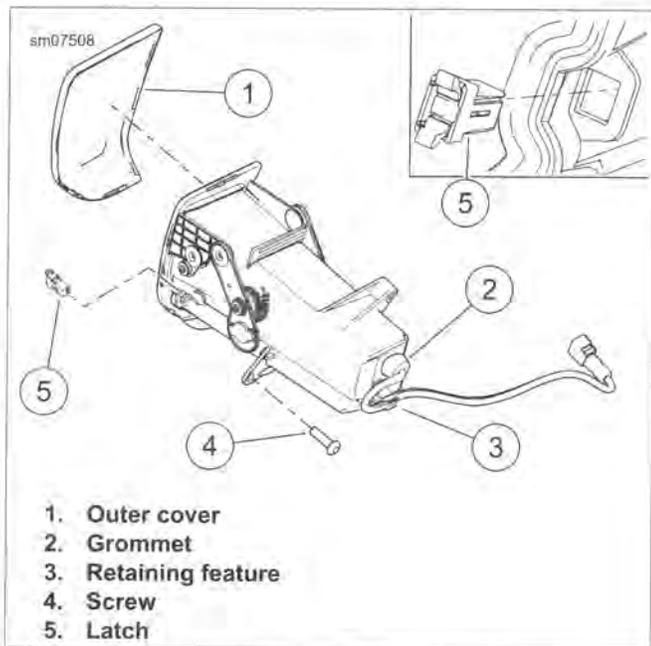

Figure 2-148. Media Compartment
5. See Figure 2-148. Remove screw (4). Open compartment door. Remove media compartment.
1. See Figure 2-148. Place media compartment into position.
2. Install screw (4). Tighten to 8-12 in-lbs (1.0-1.3 Nm).
2. See Figure 2-148. Release upper and lower catches on latch.